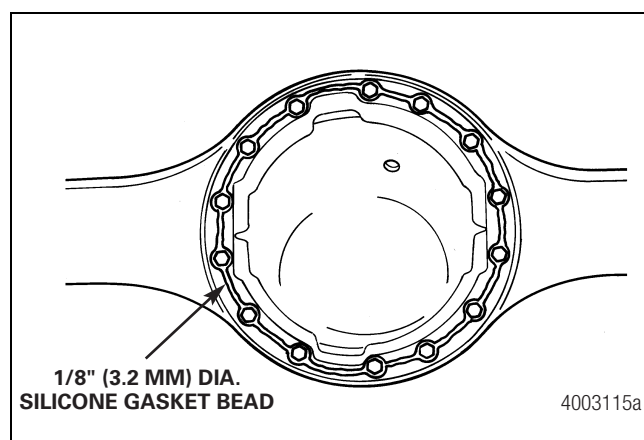

Figure 4.36
1. Clean the mounting surface of the axle housing. Apply a continuous 1/8-inch (3.2 mm) bead of Loctite® 5699 adhesive sealant, part number 2297-A-7021, or ThreeBond 1216E grey liquid silicone RTV gasket material to the mounting surface. Figure 4.36.